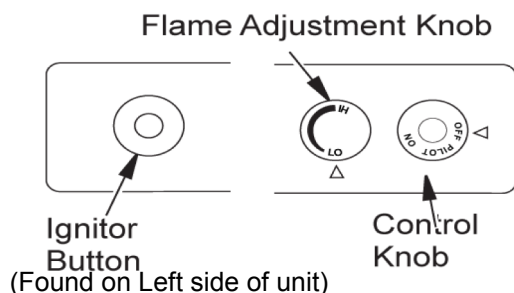

Figure 17 - Control Knob and Ignitor Button Location
4. Press in and turn control knob clockwise  to the OFF position (see Figure 17).
5. Wait five (5) minutes to clear out any gas. Then smell for gas, including near the floor. If you smell gas, STOP! Follow "B" in the safety information, column 1, page 13. If you don't smell gas, go to the next step.
6. Press in and turn control knob counter-clockwise  to the PILOT position. Press in control knob for five (5) seconds (see Figure 17).